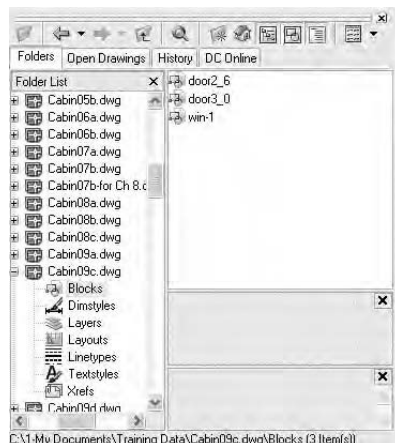

FIGURE 9.23 DesignCenter with the List view option
5. Select **Blocks** from this list. Now the right side of DesignCenter displays the three blocks in Cabin09c, either as small images or by name only. Click the arrow on the Views button in the upper-right corner of DesignCenter, and choose **List** as the view option (see Figure 9.23).